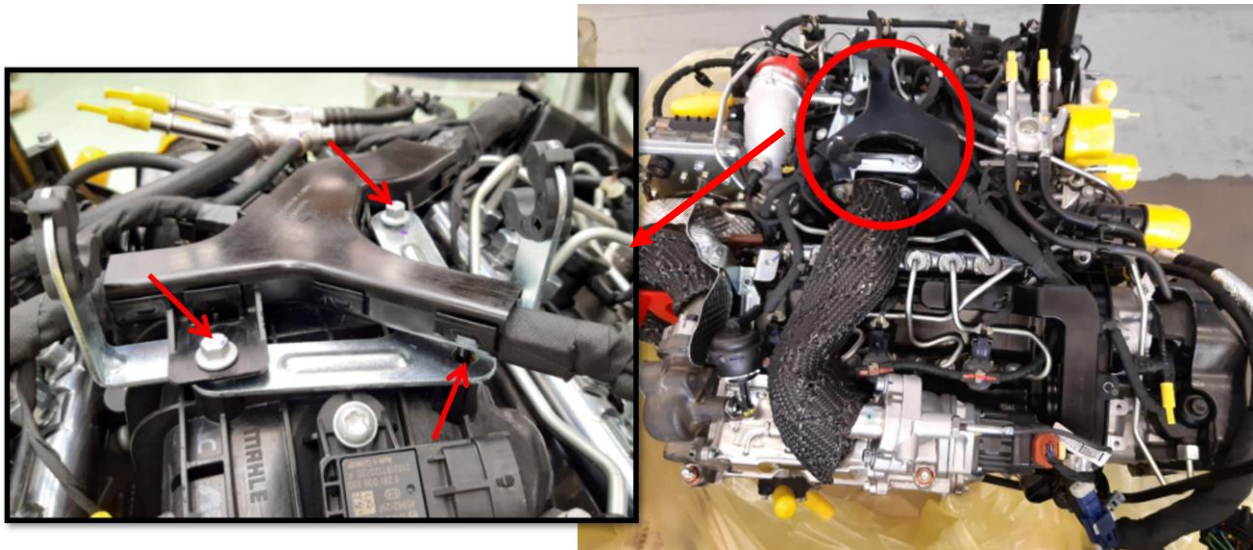

Figure 9
18. Install the supplied engine harness support bracket using the supplied M6 bolts and secure the harness to the bracket. Please see (Figure 9). Tighten the bolts to 8 ft/lbs. (10.8 nm).